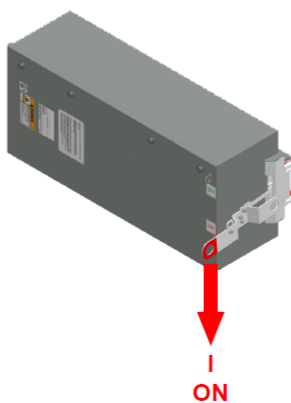

Figure 31. Turin-on
- Turn-on position. (Figure 31)